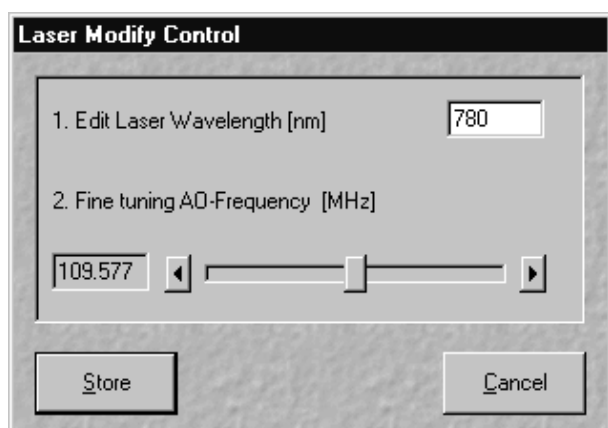

Fig. 8-12 Laser Modify Control window
- Click the **Modify** button. The **Laser Modify Control** window is opened (Fig. 8-12).
- Click the **Modify** button. The **Laser Modify Control** window is displayed. (Fig. 8-12).
- Click the **Modify** button. The **Laser Modify Control** window is displayed (Fig. 8-12).